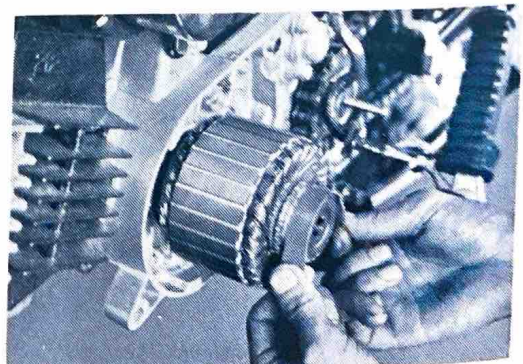

Fig. 5-4-5
- 1) Thoroughly clean the commutator of oil and dirt. If the commutator is rough or dulled with brush dust, polish it with fine grain sandpaper (#400-600) as shown in Fig. 5-4-5, by rotating the armature. Partial polishing will only deform the commutator and shorten brush life.